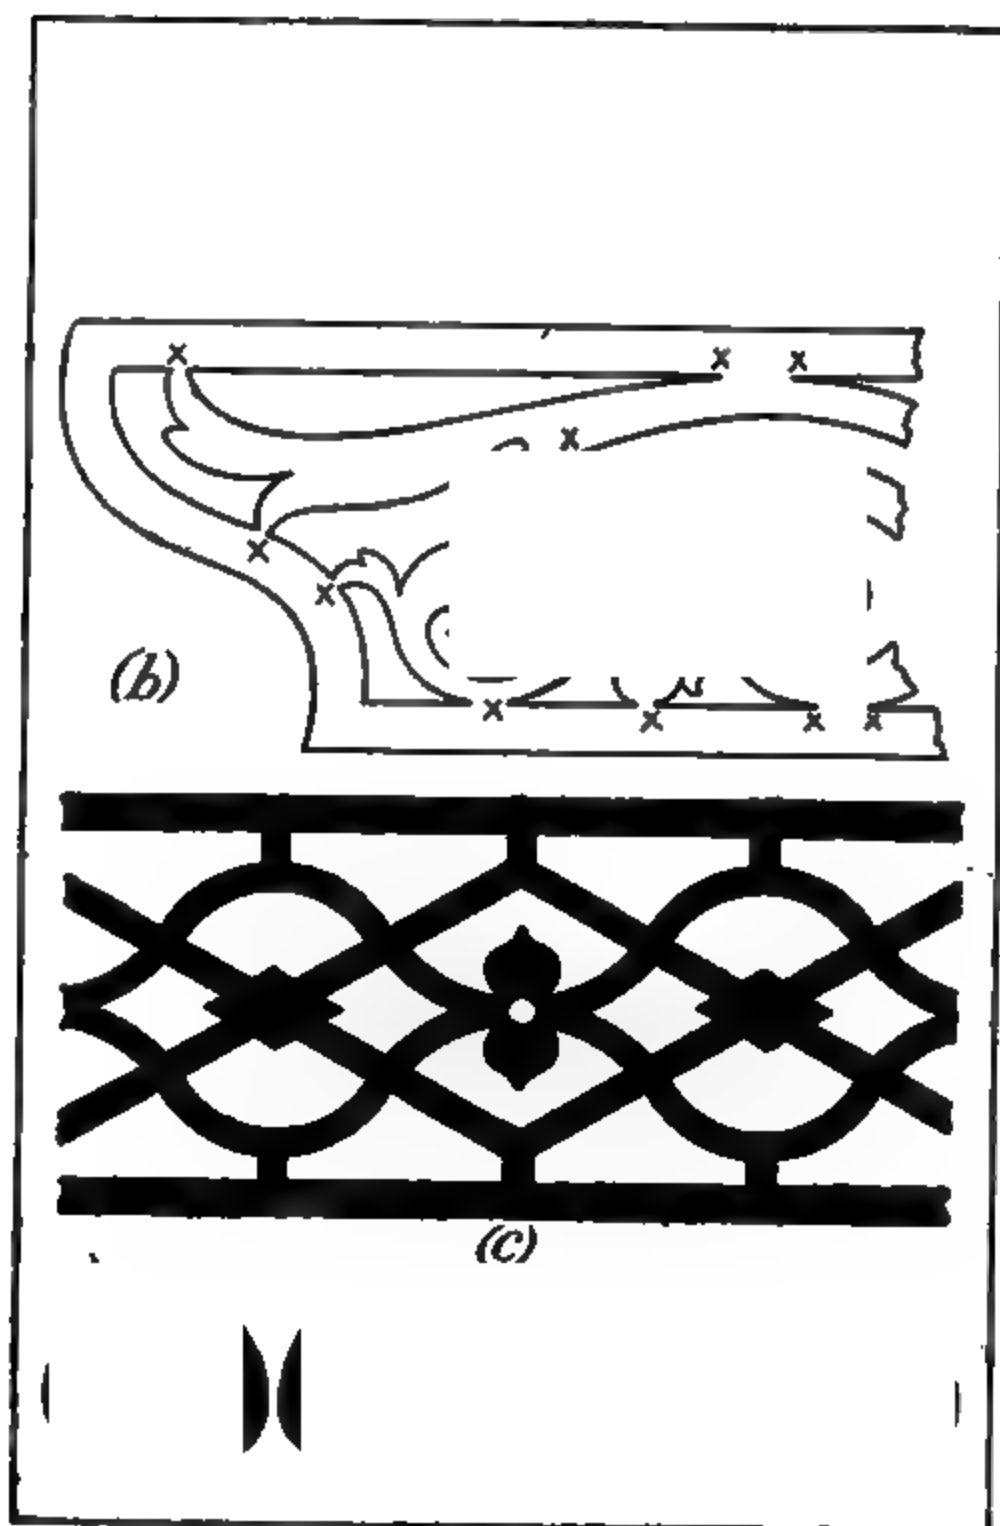

Fig. 140.—(a, b) Ties. (c) Intersections. (d) Leaf form.
together by "ties." But the difference between the two ornaments is that, while the *cut-out* part of a stencil represents the design, the fret pattern is the solid wood. Thus, while a stencil tie separates the finished ornament into many parts, the fretwork tie binds the whole ornament together. The importance of ties should always be borne in mind when cutting. On good designs they are never obtrusive, but they should be adequate for strength. At Fig. 140, *a*, is shown a small fret the ties of which are quite natural. At *b* is shown the enlarged detail of an end. When the tie corners lettered X are approached, there are three points to watch: (1) As the tie is there only for strength, the eye must carefully watch what is beyond; (2) the saw must not run too far into the corner, or the tie will be weakened; (3) the tie must not be left too thick or it will appear clumsy.
*Intersecting.*—Ties often take the form of intersecting lines, as Fig. 140, *c*. Geometrical forms are troublesome, not so much because the lines are specially difficult to follow, but because mistakes are more readily detected. In the case of Fig. 140, *c*, the ties (or intersections) are all part of the ornament, and accuracy and strength alike are secured by observing and following the continuity of line. Long, straight lines are usually broken by several ties, and when a tie corner is approached the eye must be kept on the line beyond.